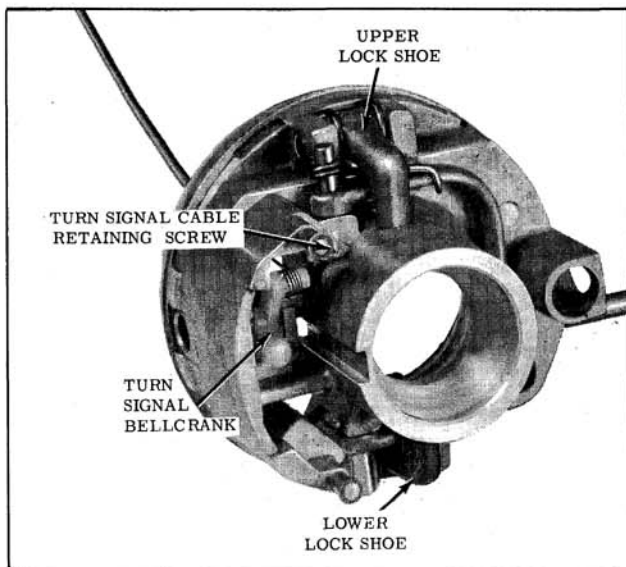

Fig. 8-102 Actuator Housing (Top View)
3. Remove the lock shoes and springs by pushing the upper end of the lock shoe through the openings in the actuator housing. (Fig. 8-102)